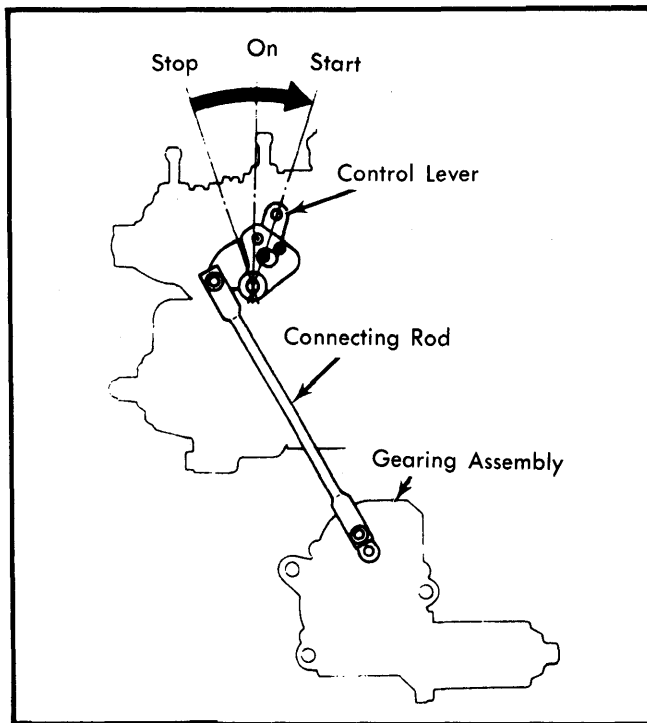

**Fig. 8 Checking Continuity at Glow Plug Relay**
3) If voltage at glow plug is less than 9 volts, check for continuity at glow plug relay. If continuity is not present, check at second connector on relay. If continuity is not present, relay is faulty. See Fig. 8.